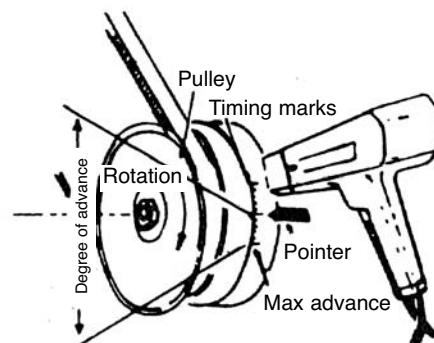

Figure 5
3. Direct timing light flash at timing marks and slowly rotate distributor right and left until timing marks are aligned with pointer. See figure 5. Stop engine.